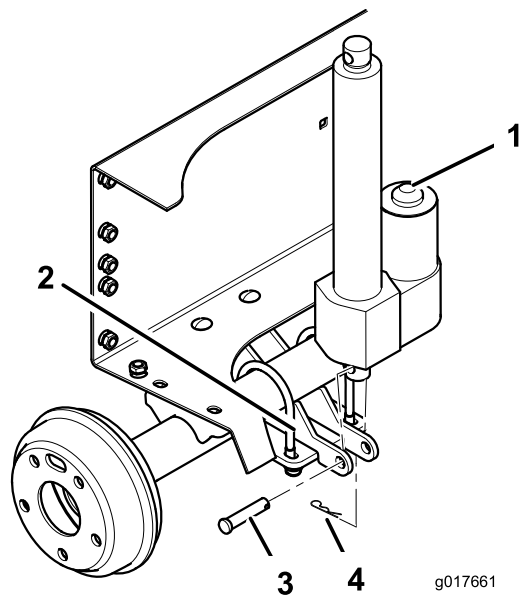

Figure 11
- 3. Mount the bottom end of the lift actuator to the lift-cylinder support with a clevis pin and a hairpin cotter. Position the components as shown in Figure 11.